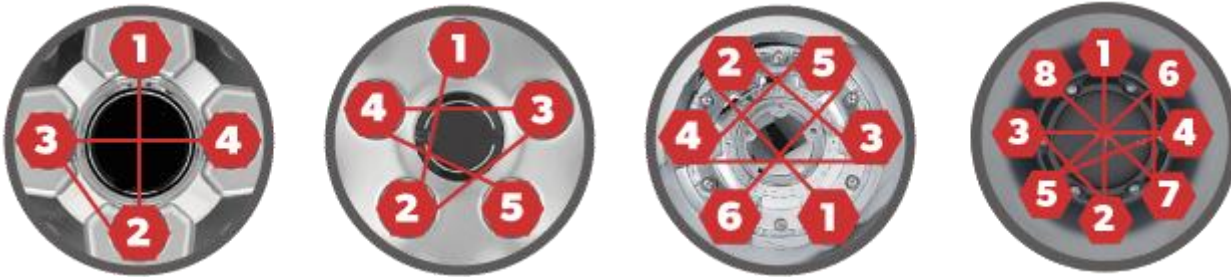

Figure 7-1 Lug Nut Sequence of Tightening
- Complete the Torque sequence in two complete stages through the criss-cross pattern shown in Figure 7-1.
- For wheel sizes, fasteners, and wheel materials not listed in the above chart, please contact FNA GROUP Incorporated at (800) 952-4228.